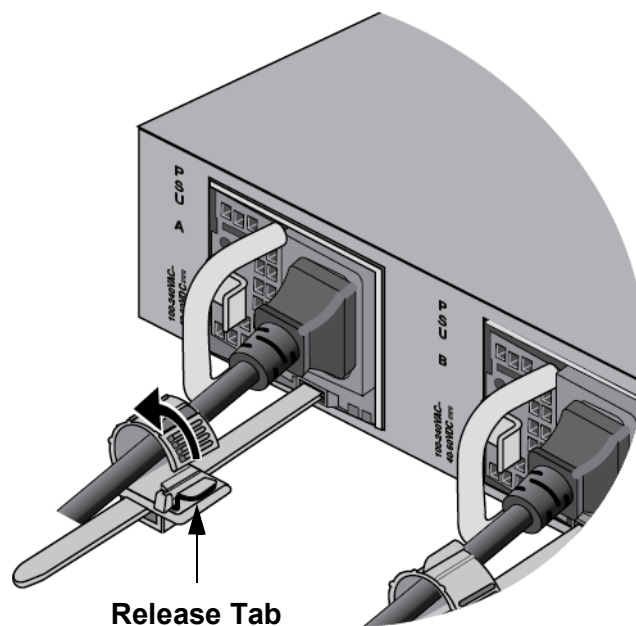

Figure 142. Opening the Restraining Strap on the Power Supply
2. Open the restraining strap on the power cord by pressing down on the release tab and pulling out the strap. Refer to Figure 142 on page 244.